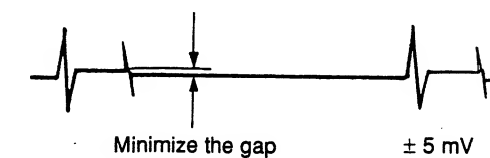

Fig. 2-3.
3. Connect an oscilloscope to Pin ⑤ of IC701 of the BK board.
4. As shown in Fig. 2-3, adjust the BRT CENTER data so that the waveform becomes flat.